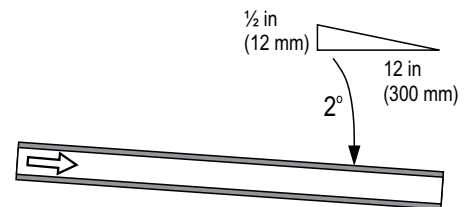

Figure 14: Steam Line Slope
- The steam line must have a constant minimum upslope of 2 in/12 in (10°), or a constant minimum downslope of 1/2 in/12 in (2°), as shown in Figure 14 on page 27.